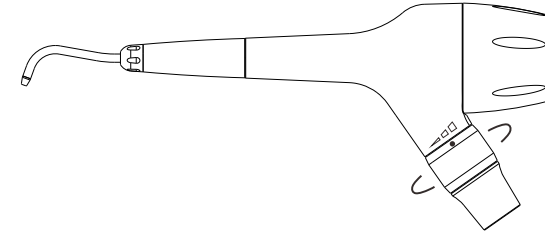

Figure 6 Gear adjustment indication
- The adjustment knob is set at the tail of this product, which is divided into three levels: (See Fig. 6)